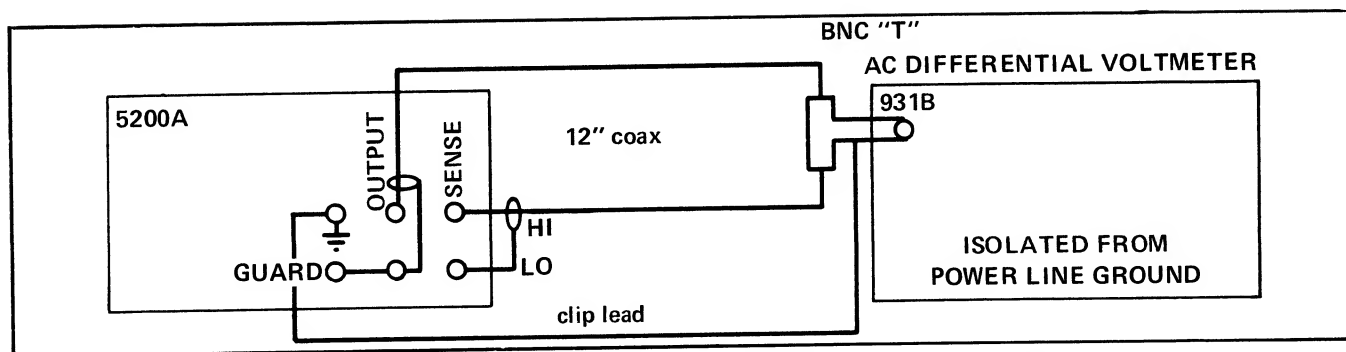

Figure 4-3. OUTPUT ACCURACY ALTERNATE CONFIGURATION
- a. Connect the equipment as shown in Figure 4-3.
4-39. Use the following procedure to perform the millivolt output accuracy test. (Use the specifications listed in Table 4-4 and connect the equipment as shown in Figure 4-3.)